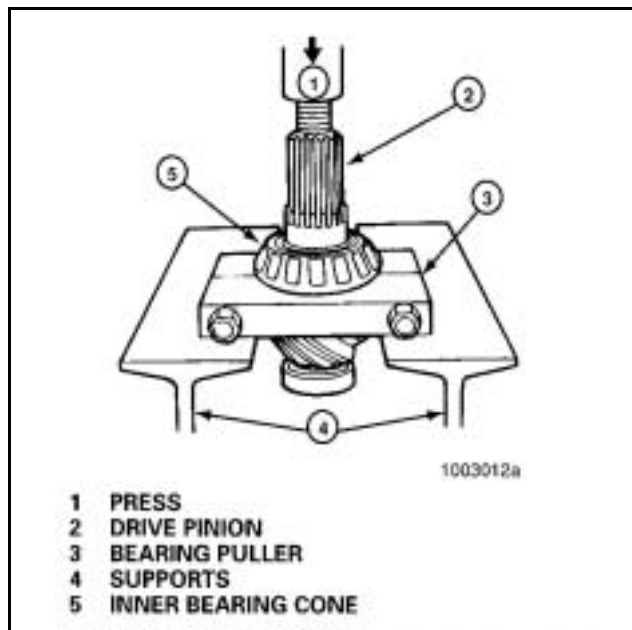

Figure 30
7. If the pinion bearings need to be replaced, remove the inner bearing cone from the drive pinion with a press or bearing puller. The puller must fit under the inner race of the cone to remove the cone correctly without damage. **Figure 30.**